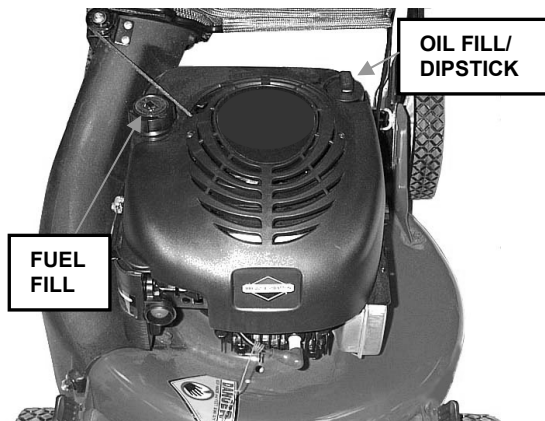

FIGURE 2.2
2.1.4. Check engine oil and add as needed to bring level up to 'full' mark on dipstick. See Figure 2.2. (Briggs 6.5hp engine shown, fuel and oil fill locations may vary with engine.) Refer to Engine Owner's Manual for oil specifications.
2.1.5. Add fuel to tank. See Figure 2.2. Fuel mower outside where fumes can safely dissipate. Make sure cap is tightened after refueling. Refer to Engine Owners Manual for fuel specifications.